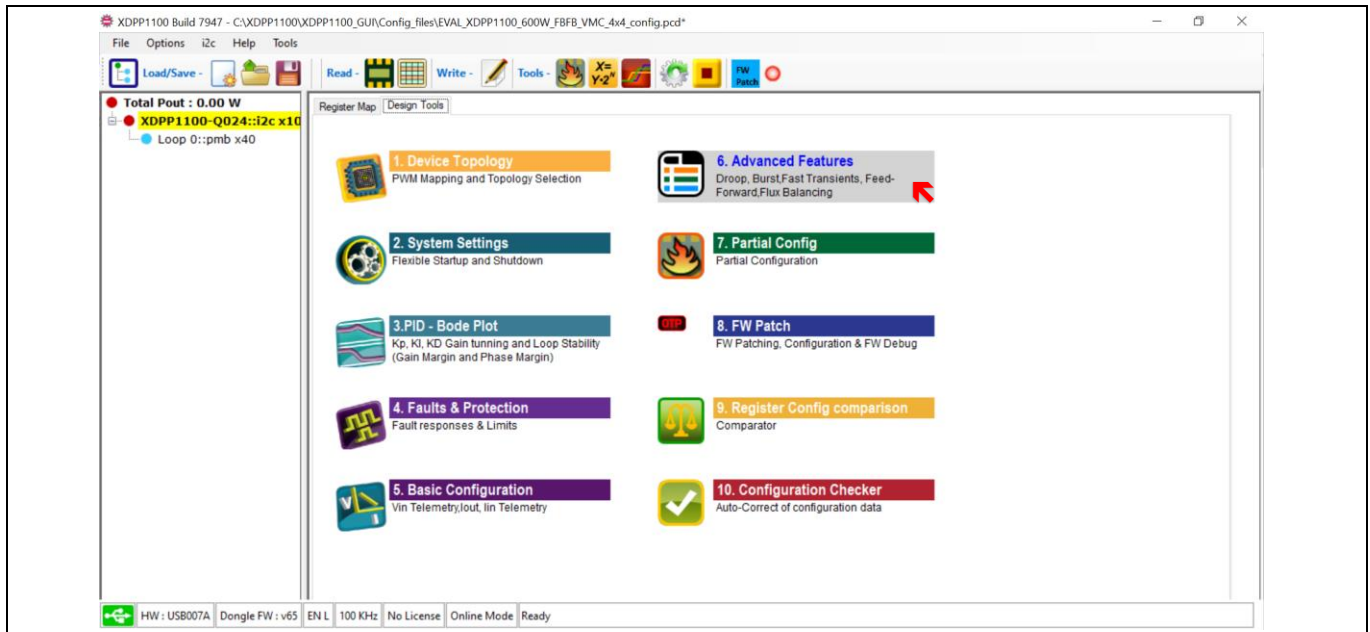

Figure 49 Advanced features (droop, burst, fast transients, feed-forward, flux balancing)
- Click on **XDPP1100-Q024::i2c x10** (highlighted in yellow in Figure 49).